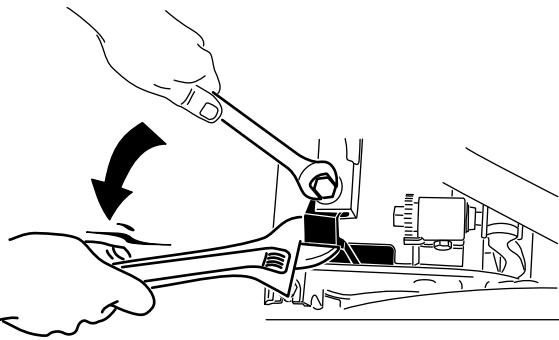

Figure 50
**Note:** When tightening the pivot arm mounting fasteners, use an adjustable end wrench to hold the pivot arm parallel to the side plate (Figure 50).